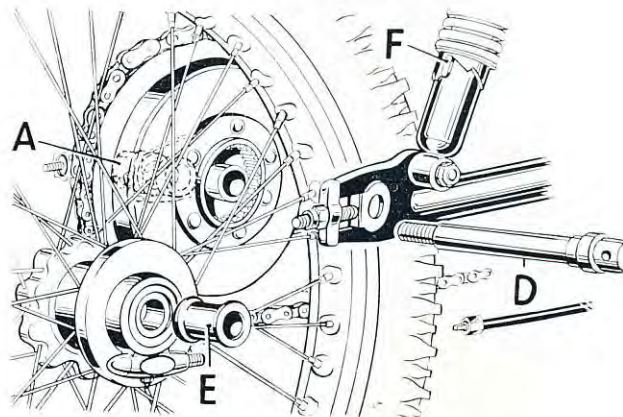

FIG. F6. Removal of rear wheel.
Detach the speedometer drive cable then unscrew and withdraw the wheel spindle (D) Fig. F6, using a suitable steel bar through the head. It has a normal right-hand thread and is therefore unscrewed in an anti-clockwise direction.